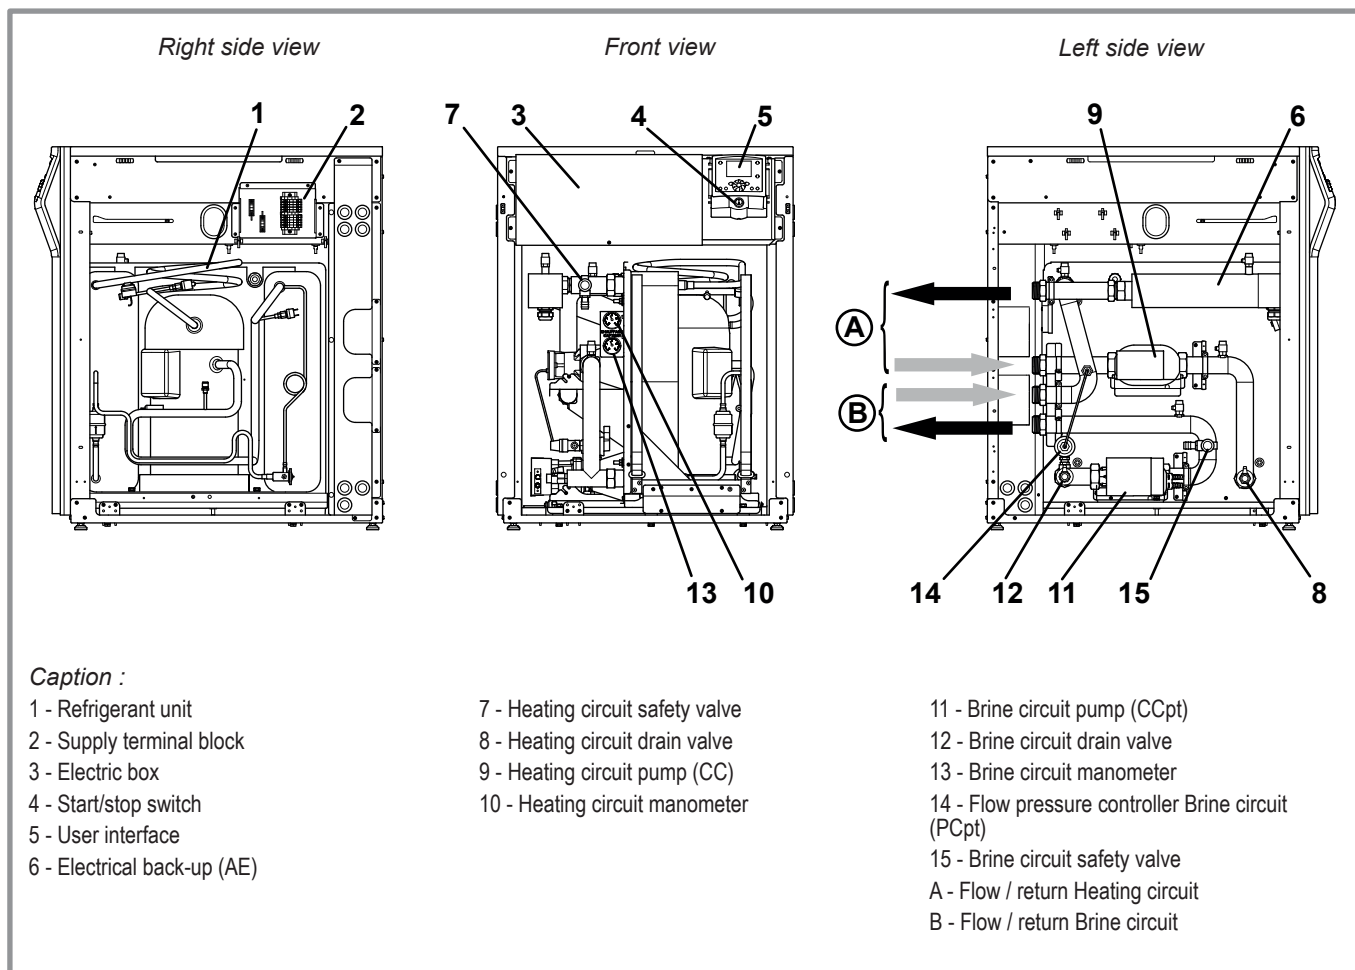

figure 4 - Heat pump components
- The heat pump is made of a refrigerant circuit (ref. **1**, figure 4, page 7) which contains the following components :